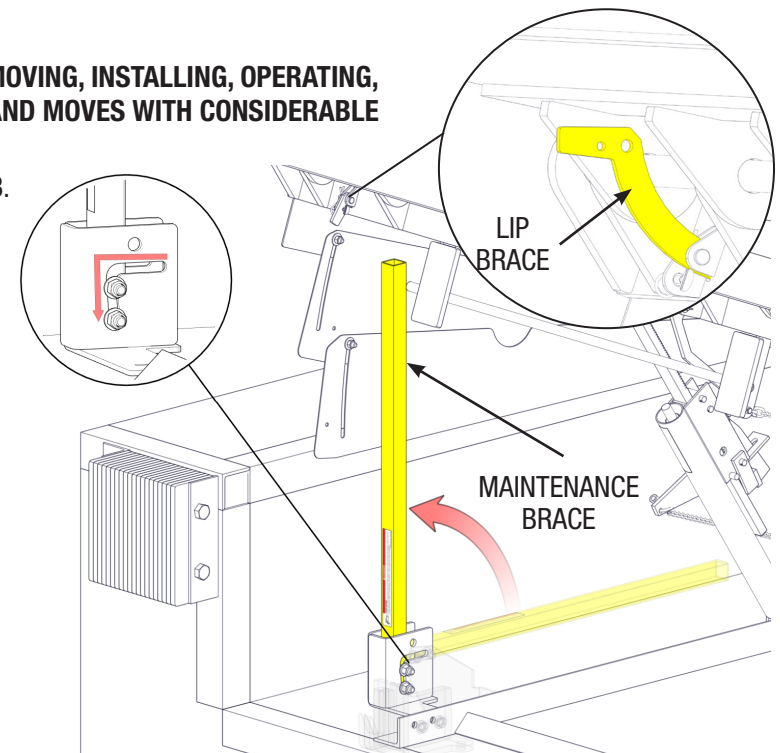

Figure 13
2. Raise the lip brace and maintenance brace to their vertical and locked positions, as shown in **Figure 13**. Secure it with an OSHA approved locking device. A secondary means of supporting the deck should be used.